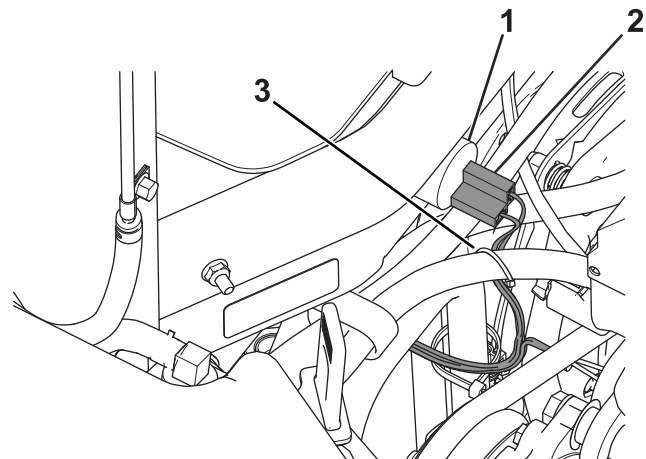

Figure 6
3. Plug the very end of the wire harness into the previously installed alarm (Figure 6).
5. Secure the harness away from A/C compressor belt on cab units as shown in Figure 6.